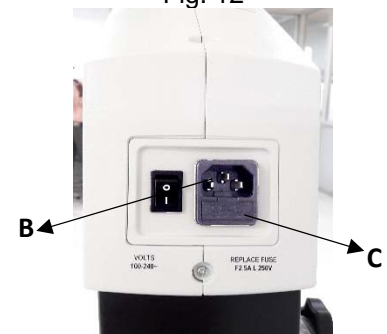

Fig. 13
- Locate the fuse at the AC inlet **(B)** as shown in Fig. 13.